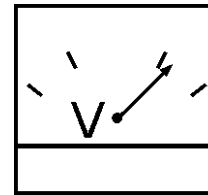
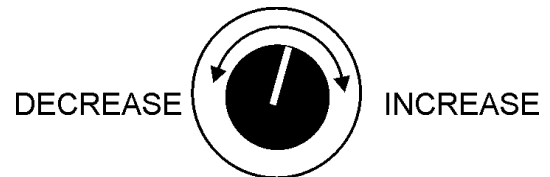

Figure 44. Voltmeter
Figure 45. Voltage Adjust Control Knob
12. The generator’s AC-voltmeter (Figure 44) will display the generator’s output in **VOLTS**. If the voltage is not within the specified tolerance, use the voltage adjustment control knob (Figure 45) to increase or decrease the desired voltage.